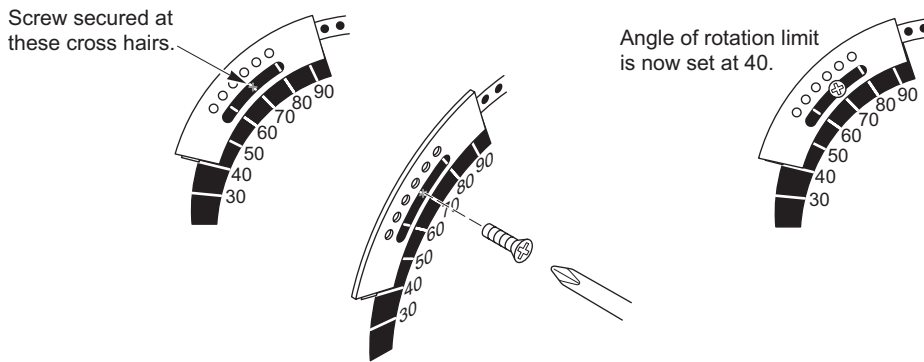

Figure 1 Securing the Rotation Limiter.
2. Locate the rotation limiter on the actuator so that its edge lines up with the degree graduation on the actuator face which corresponds with the required rotation. See Figure 1.